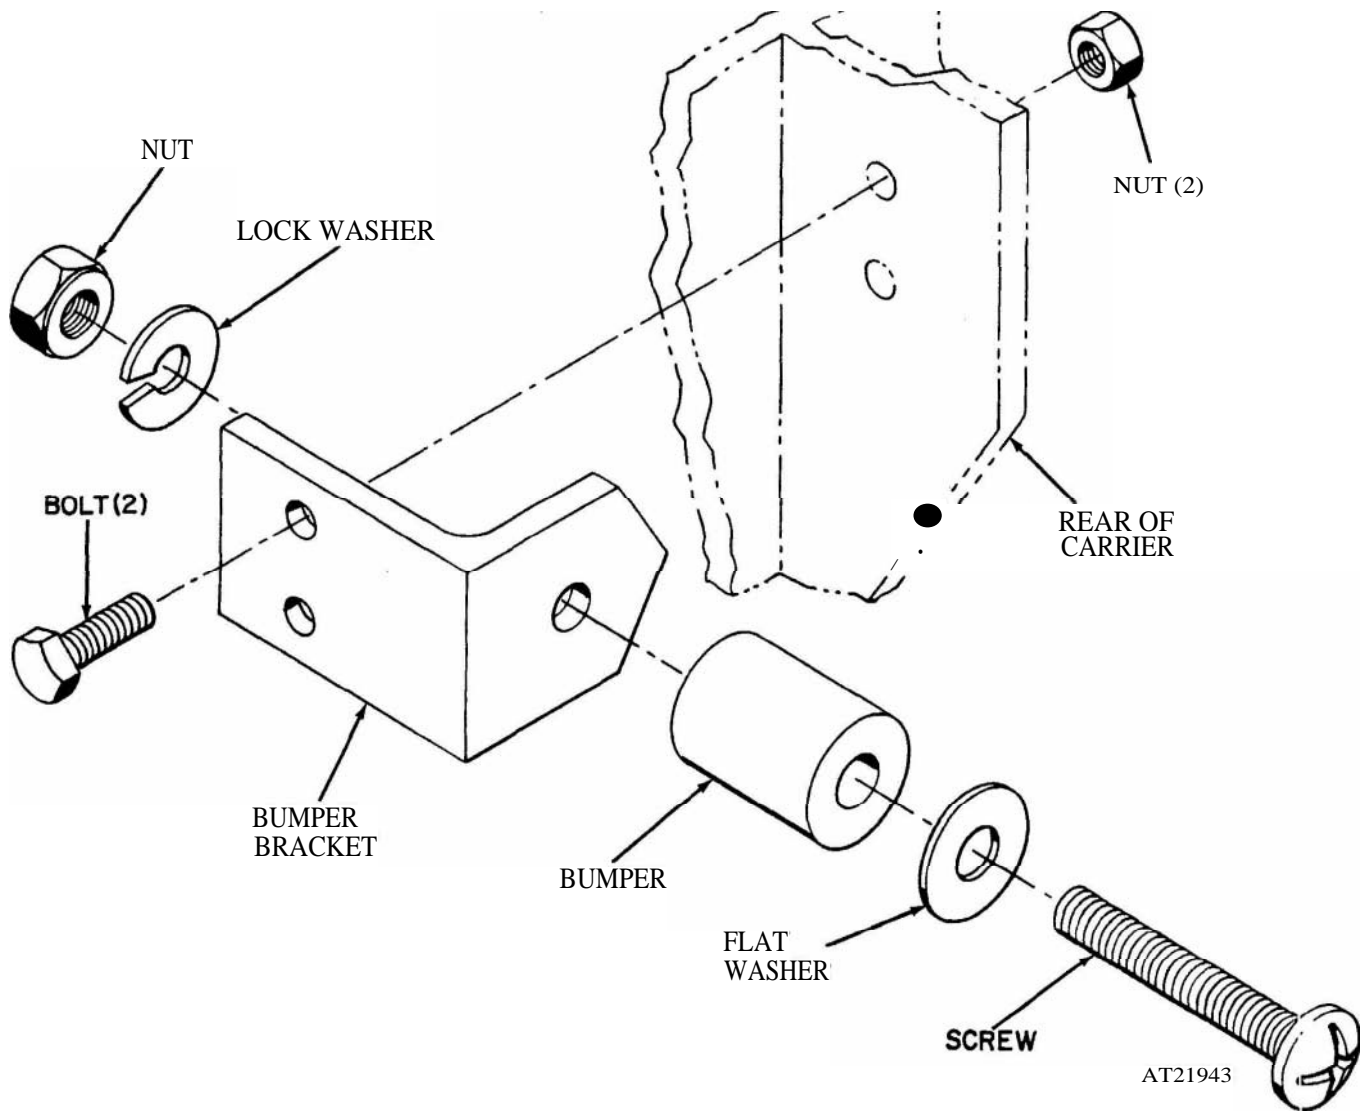

Figure 2-290. M792 ambulance tailgate bumpers, removal and installation.
(1) Remove bumper by removing screw, washers and nut securing bumper to bumper bracket (fig 2-290).
(2) Remove bumper bracket by removing bolts and nuts securing bracket to rear of carrier.
(1) Position and secure bumper bracket to rear of carrier with two bolts and nuts (fig 2-290).
(2) Position and secure bumper to bracket with screw, flat washer, lock washer, and nut.